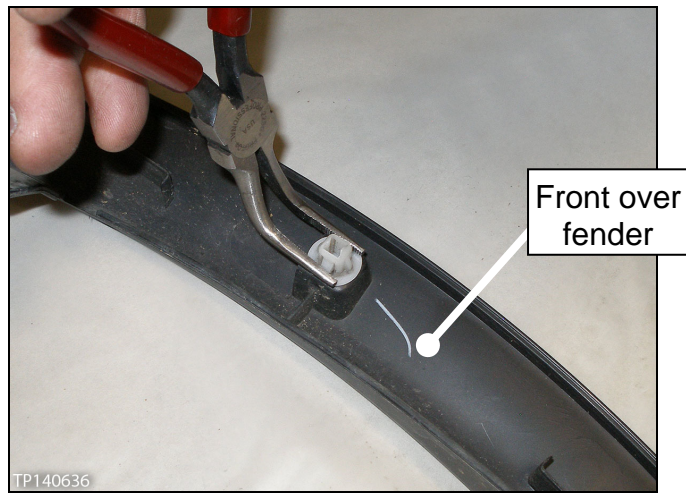

Figure 5b: Shown off vehicle for easier viewing
- b. Unfasten the front over fender's clips by pinching the clips' tabs (you can use your fingers), and then push through (see Figure 5b).